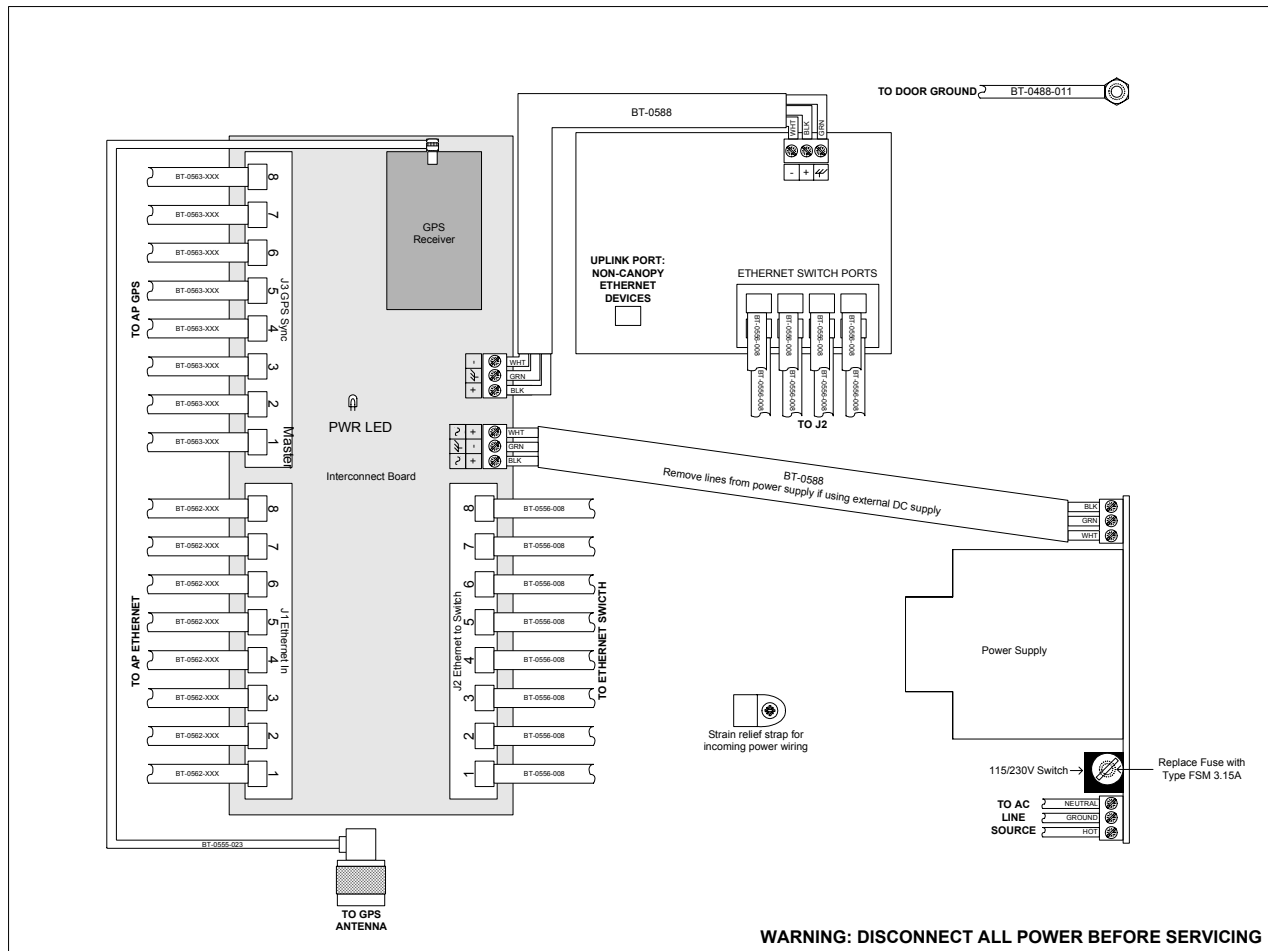

Figure 130: Layout of logical connections in CMM2
The logical connections in the CMM2 are displayed in Figure 130.
15. Connect AC or DC power to the CMM2, consistent with Figure 130 on Page 345.